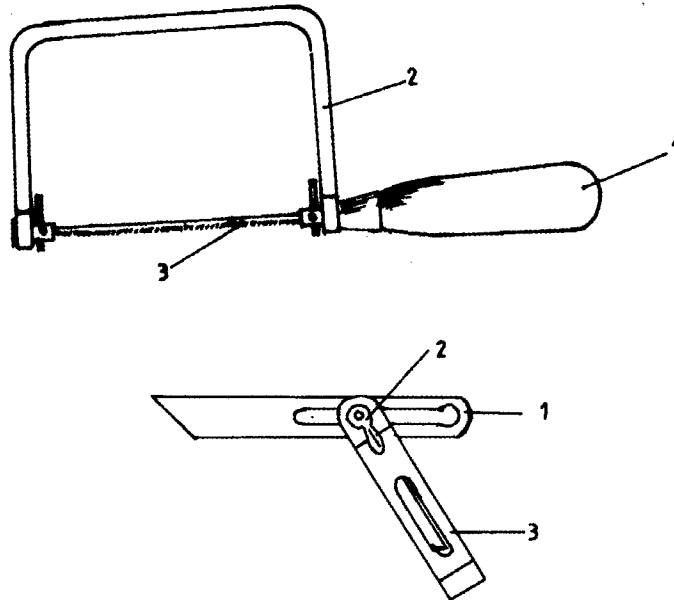

Figure 1
- 3 (i) Name each of the tools shown in Figure 1.